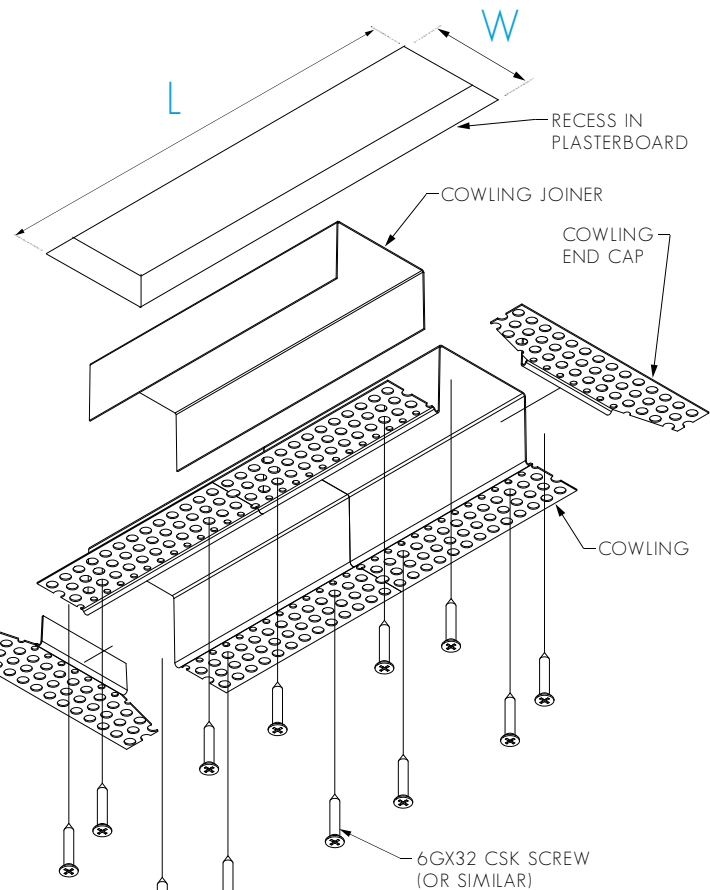

FIG. 1 - FIX JOINER TO COWLING
2. IF REQUIRED, JOIN MULTIPLE LENGTHS OF COWLING TOGETHER USING JOINERS. (SEE FIG. 1).